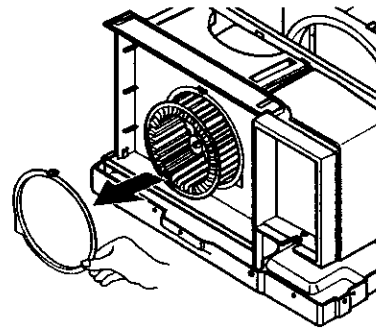

Figure 45
9. Pull out upside hook of orifice by pushing the tabs and remove it. (See Figure 45)